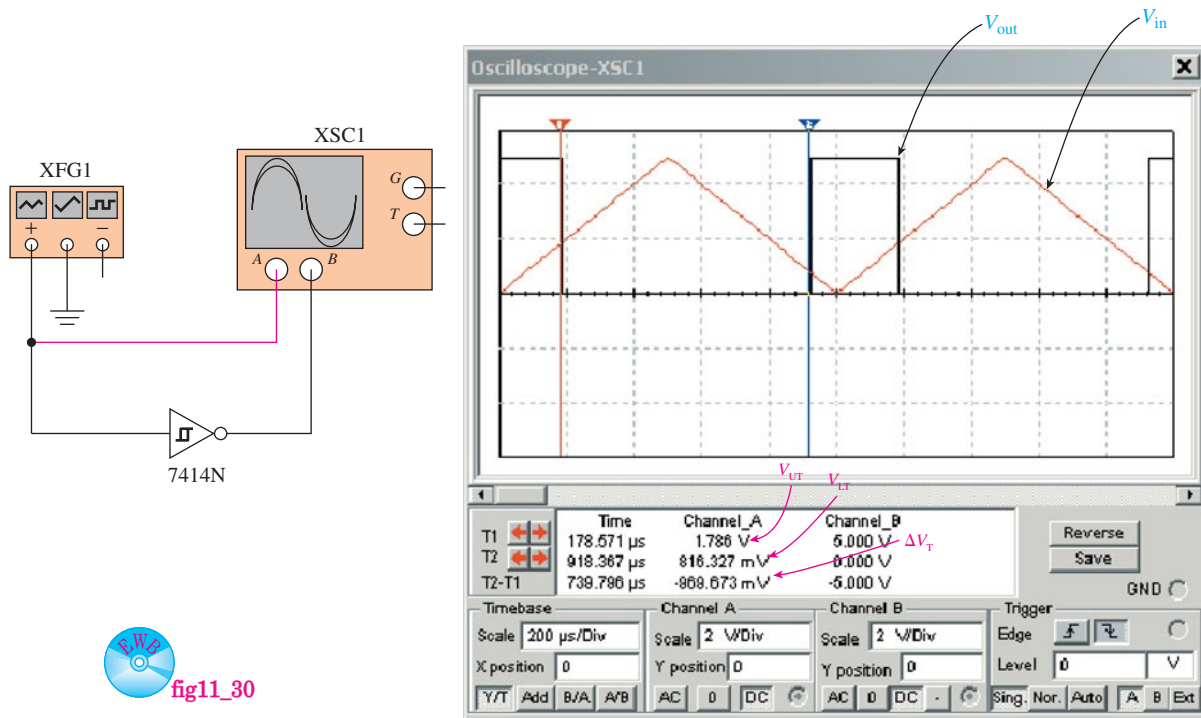

Figure P-3 Using MultiSIM® to determine the switching thresholds of an IC.
Several MultiSIM® examples and problems are included within each chapter (see Figure P-3). The textbook companion website provides all of the circuit files and instructions needed to solve each circuit. There are three types of problems: (1) *circuit interaction problems* require the student to change input values and take measurements at the outputs to verify circuit operation, (2) *design problems* require the student to design, or modify, a circuit to perform a particular task, and (3) *troubleshooting problems* require the student to find and fix the fault that exists in the circuit that is given.